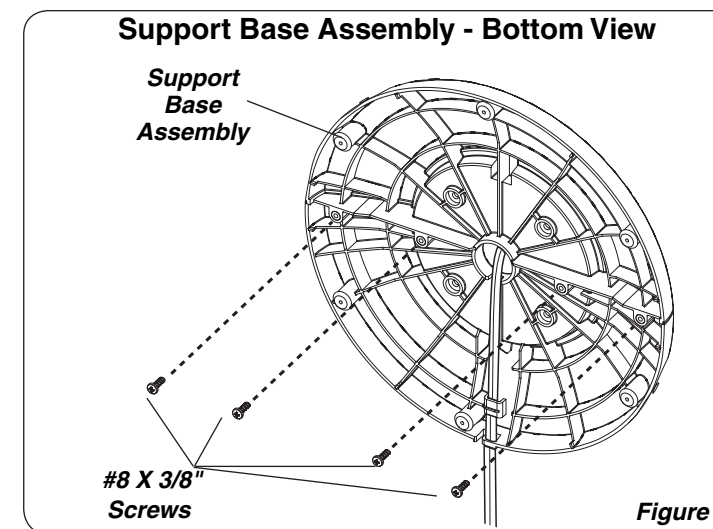

Figure 2
- Secure the (4) **#8 X 3/8" Screws** into the four holes in the bottom of the base. (**Figure 2**)